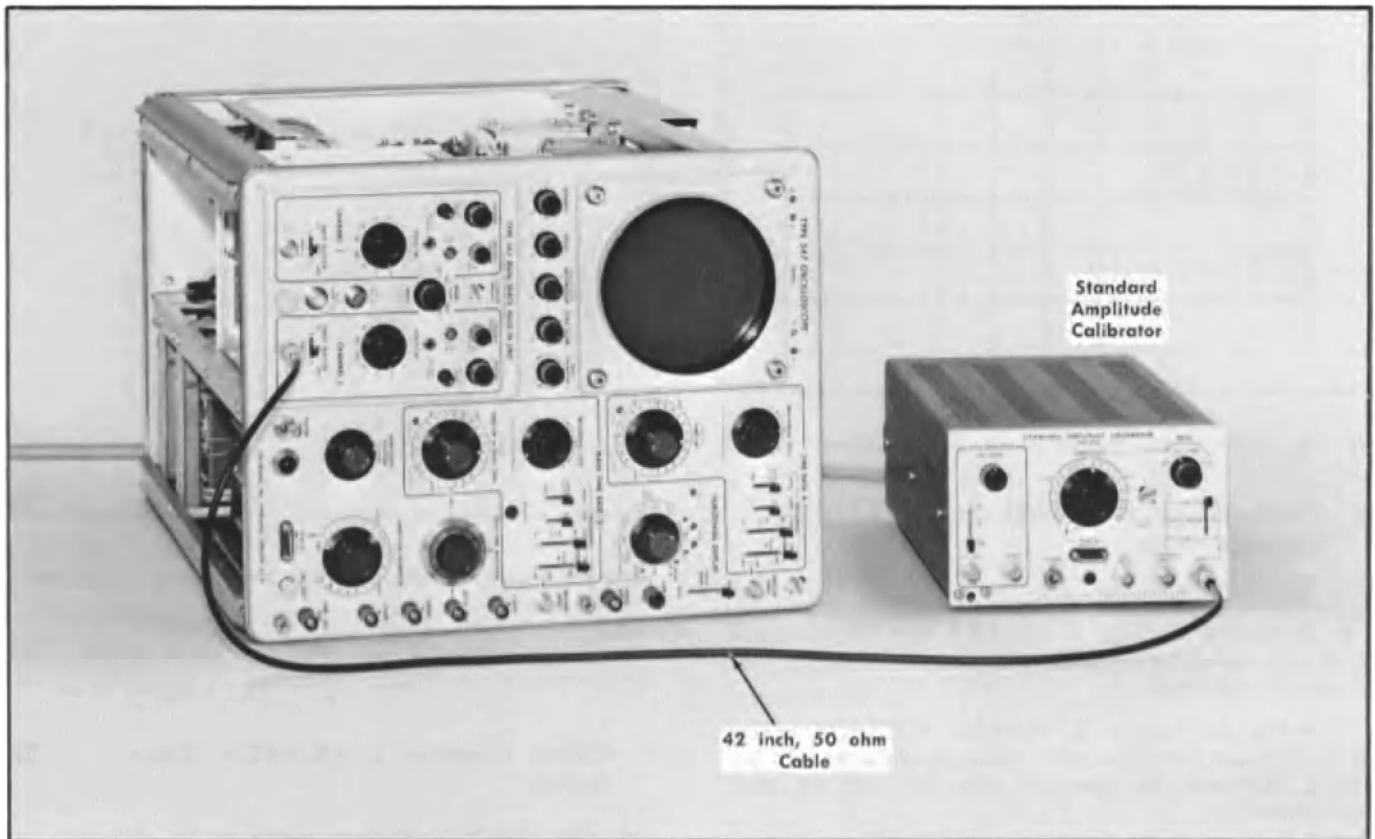
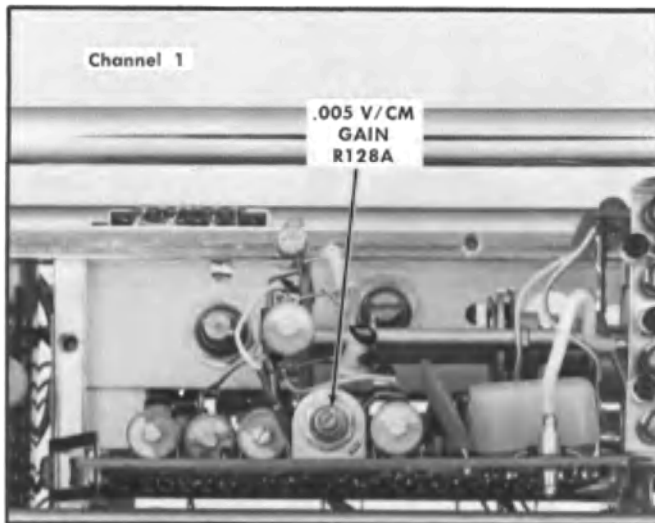

Fig. 7-7. Test equipment setup for steps 5 through 10.
Fig. 7-11. Location of Channel 1 .005 V/CM GAIN adjustment.
5. Adjust Channel 2 .05 V/CM GAIN (R439) ①
a. Test equipment setup, with connections made at completion of step 5b, is shown in Fig. 7-7.
- Test equipment setup is shown in Fig. 7-7.
- Test equipment setup is shown in Fig. 7-7. This is the same setup as shown except Channel 1 connector and controls are used for this step.
9. Adjust Channel 1 .005 V/CM GAIN (R128A) ①
a. Test equipment setup is shown in Fig. 7-7. (The signal is applied to Channel 1 for this step.)
e. ADJUST—Channel 1 .005 V/CM Gain control (see Fig. 7-11) to obtain the correct amplitude display.
10. Adjust Channel 2 .005 V/CM GAIN (R228A) ①
a. Test equipment setup is shown in Fig. 7-7.